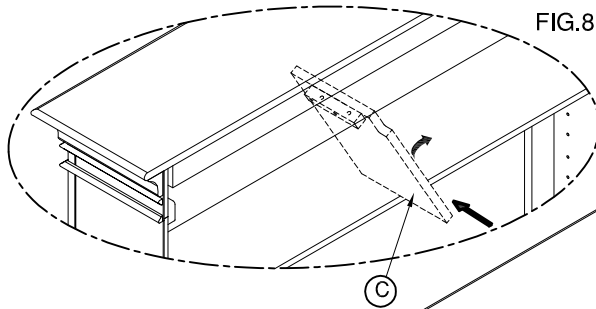

FIG.8
- Place the vertical panel into its appropriate position on the Fixed shelf as shown in figure 8.